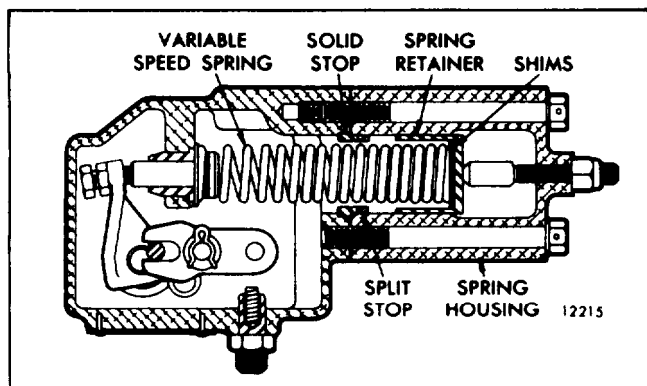

Fig. 5 - Locating of Shims and Stops
3. Refer to Table I and determine the stops or shims required for the desired full-load speed. Do not use more than four thick and one thin shim. A split stop can only be used with a solid stop (Fig. 5).